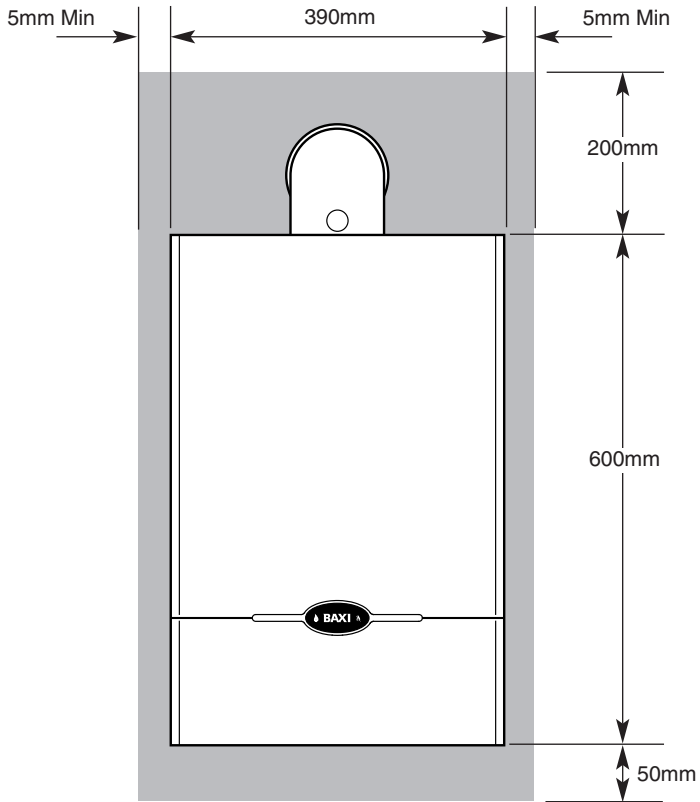

Fig. 8
4.1 Clearances around the Boiler (Figs. 8 & 9)